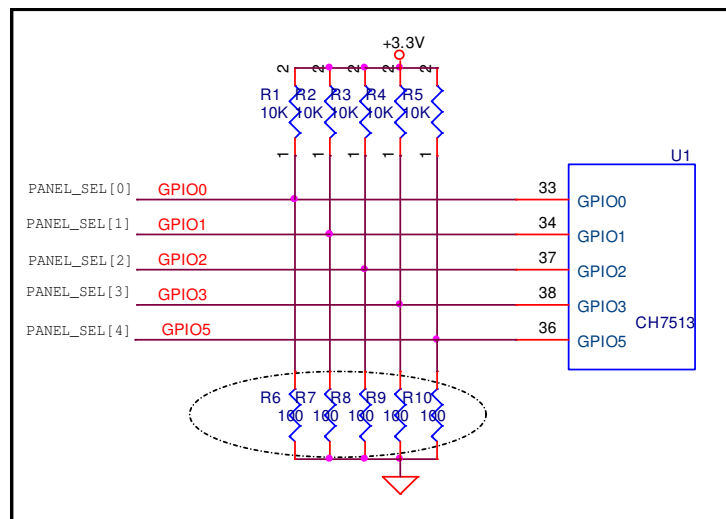

Figure 10: GPIO[0:3], GPIO[5] connections
These pins are general programmable IO pins. By firmware default configuration, These pins can be used as panel select signals. They can be pulled high or low forming into 16 different combinations. Every combination can match with one panel type. The connection is shown in **Figure 10**. CH7513 output mode and resolution can be controlled by GPIO[0:3, 5]. The detail please refer to CH7513 Utility User Guide.
**Figure 10** shows the typical cases to control the CH7513 PANEL\_SEL[4:0] by another chip. Case 1 is the right loading case, in which the GPIO pins remains stable within 100ms after reset. Case 2 is the wrong loading case, in which the GPIO value, represented by the GPIO pins, is still at random after the firmware is completely loaded. Therefore, the reset signal must be given again. The reset pulse width of larger than 10ms is recommended.